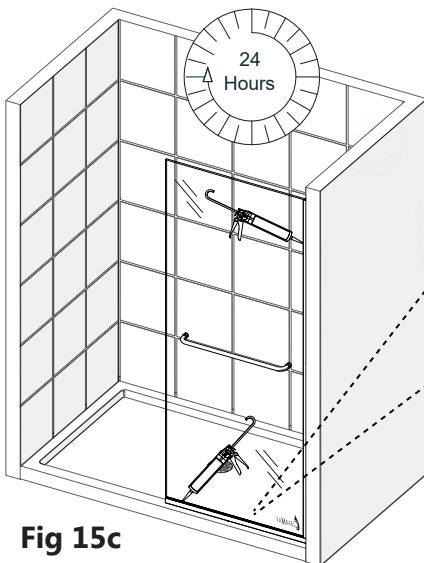

Fig 15c
- After the installation of the towel bar, apply a 100% mildew-resistant silicone along the **Vertical and Bottom U-Channel(s) (#09/29)** where it meets the wall and threshold from inside of the shower, as shown in **Fig. 15c**. Apply silicone along the outside perimeter, if desired.